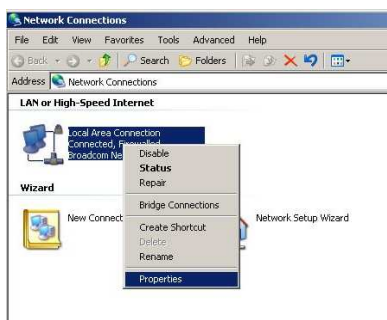

Figure 4.
- Open the Network Connections window: **Start > All Programs > Accessories > Communications > Network Connections**. Select **Local Area Connection** icon and open menu by clicking it with the right mouse button. Select **Properties** in the menu (Fig. 4)